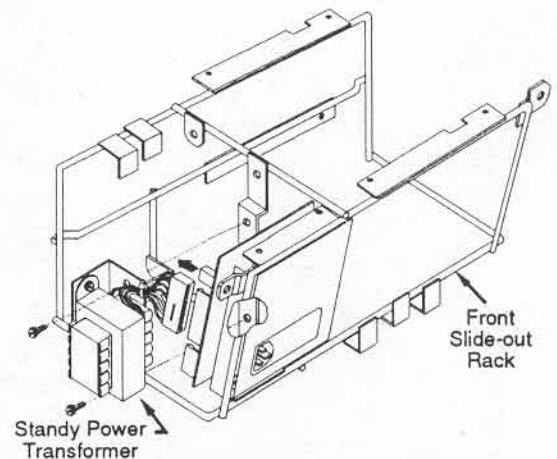

Figure 5-14. Transformer Removal
- c) Unplug the transformer harness connector from the Power Entry Module as shown in Figure 5-14.